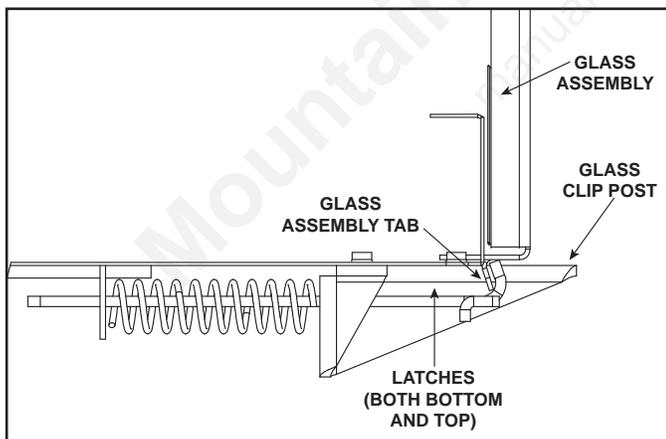

Figure 9.2 Fixed Glass Assembly
- Noting carefully how the brackets fit on the glass, release the two spring latches at the top and two at the bottom of the glass door. Carefully lift the glass up and out away from the appliance. See Figure 9.2.
- Pull the two bottom glass assembly latches off of the tabs on the glass assembly. Tip bottom of glass assembly out to remove from the appliance (see Figure 9.2).